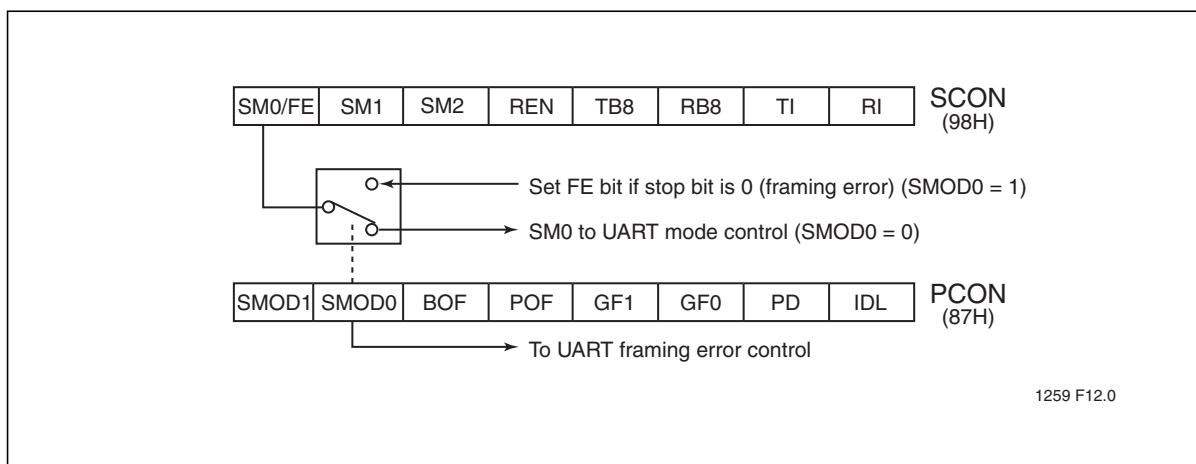
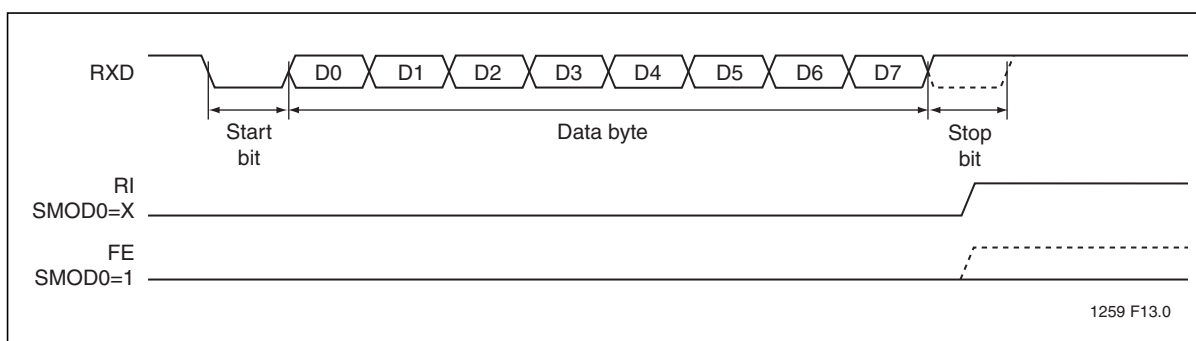
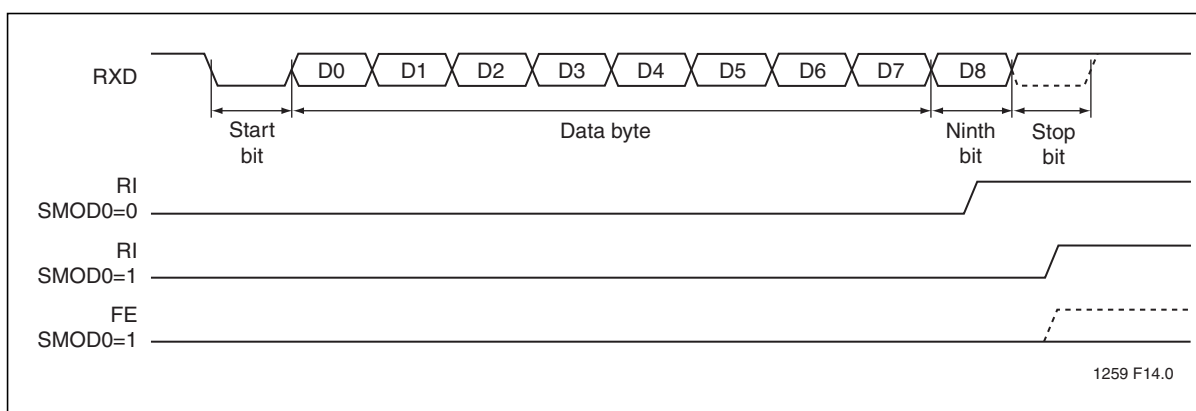

Figure 7: Framing Error Block Diagram
Figure 8: UART Timings in Mode 1
Figure 9: UART Timings in Modes 2 and 3
Framing Error Detection is selected by going to the PCON register and changing SMOD0 = 1 (see Figure 7). If a stop bit is missing, the Framing Error bit (FE) will be set. Software may examine the FE bit after each reception to check for data errors. After the FE bit has been set, it can only be cleared by software. Valid stop bits do not clear FE. When FE is enabled, RI rises on the stop bit, instead of the last data bit (see Figure 8 and Figure 9).